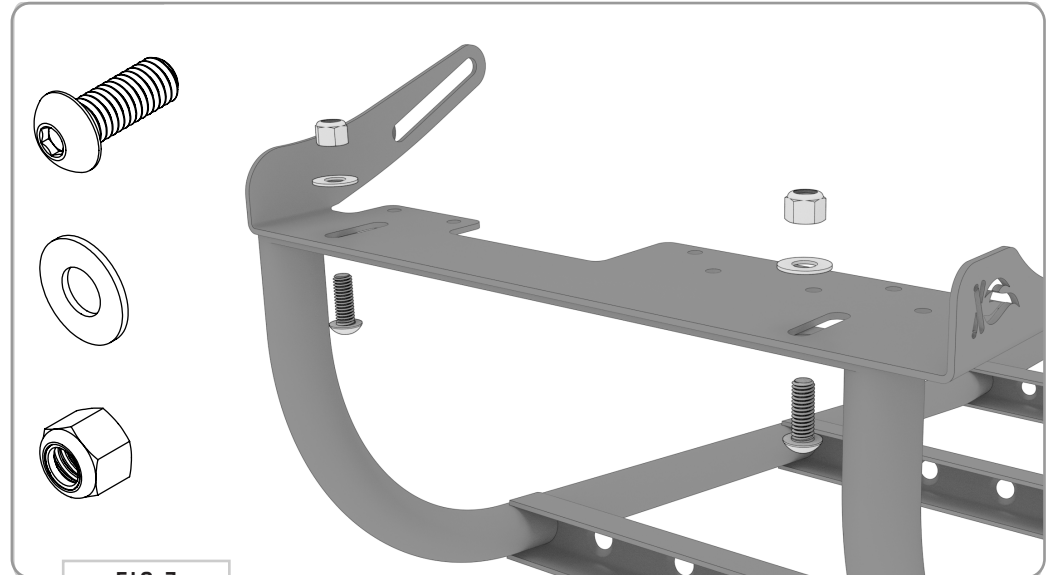

FIG 7
2.3 Attach Mounting Bracket: Take the **Mount Plate** and loosely attach to the bottom of the ladder using two (2) **3/8-16 X 1" Screws**, **3/8 Flat Washers** and **3/8-16 Nylock Nuts** (FIG 7+8).